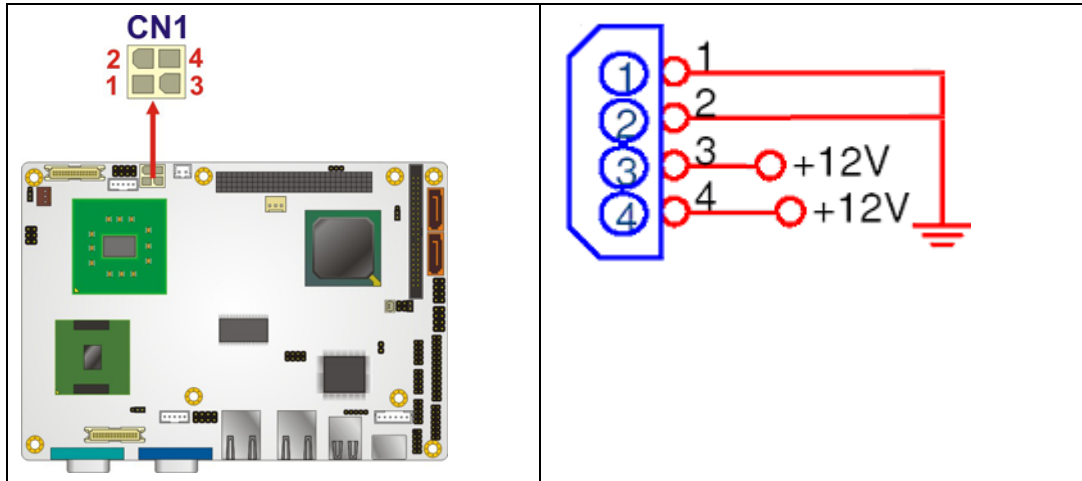

Figure 4-4: AT Power Connector Location
- CN Location:** See **Figure 4-4**